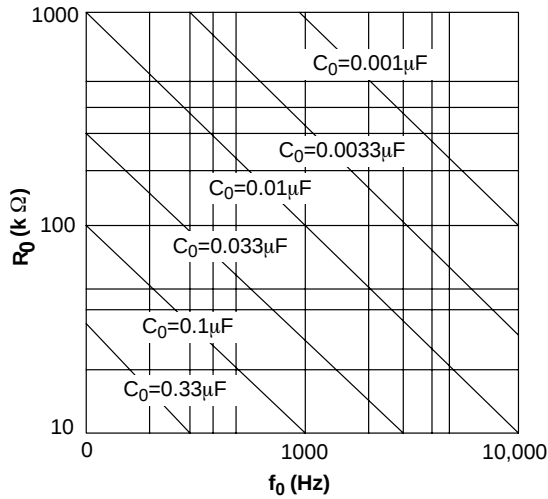

Figure 7. VCO Frequency vs. Timing Capacitor
- Calculate value of C_0 from design equation (1) or from *Figure 7*.